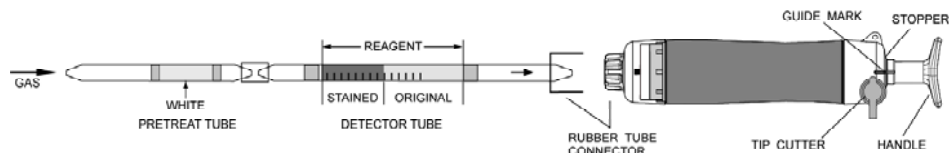

Fig.1
- ① Break both ends of the detector tube and pretreat tube, and connect each end of the detector tube and pretreat tube with rubber tube connector as shown in Fig.1.
- ② Insert the detector tube into aspirating pump securely as shown in Fig.1. (Arrow mark shall point to the pump.)
- ③ Align the guide marks on the shaft and stopper of the aspirating pump.
- ④ Pull the pump handle at full stroke locked position and wait for 2 minutes or until the completion of sampling is confirmed with the flow indicator of the pump (See descriptions about the flow indicator in the instruction manual of the pump).
- ⑤ Turn the pump handle right or left by 1/4 (90°), push it toward to the pump without removing the detector tube from the pump inlet, turn it right or left by 1/4 (90°).
- ⑥ Then, repeat the step ④ ~ ⑤ 4 times.
- ⑦ On completion of sampling, read the scale at the maximum point of the stained layer.
- ⑧ When the concentrations are below or over the scale range, multiple pump strokes can be used to determine these lower or higher concentrations.